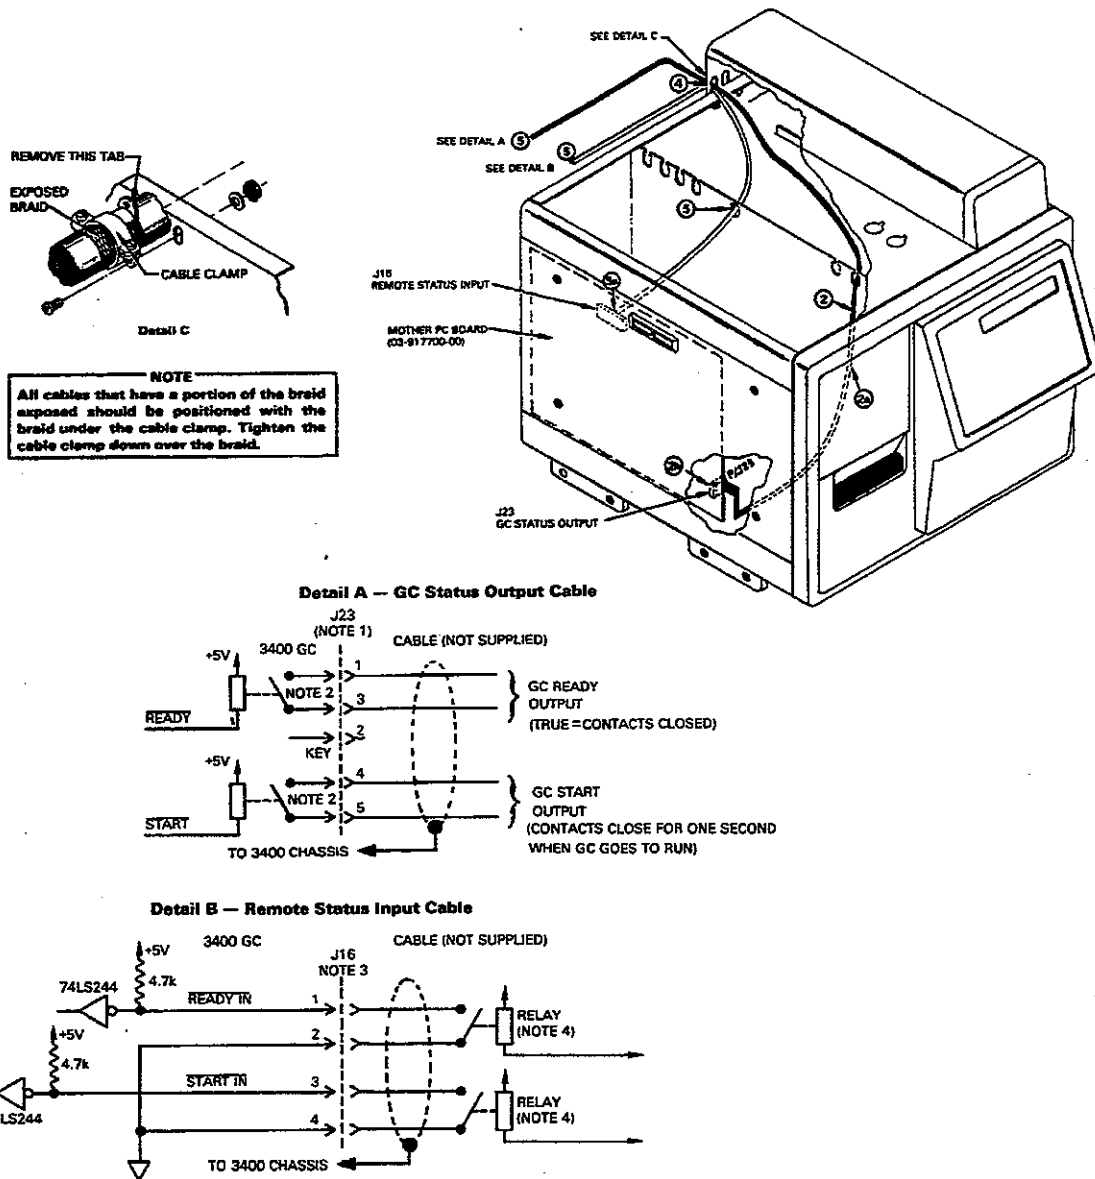

Figure 8 GC Remote Status Input and GC Status Output
- a. Turn off the GC. Remove the GC top covers. Remove detector PC boards to access the GC STATUS OUTPUT (J23) on the Mother PC Board. Refer to Figure 8.
- b. Route the GC Status Output cable (P/N 03-917849-00) into the electronics cabinet through the first guide slot (see Figure 8, Detail A).
- d. Connect the cable to J23 on the Mother PC Board (see Figure 8).
- b. Route the Remote Status Input cable (P/N 03-917850-00) into the electronics cabinet through the third card guide slot (see Figure 8, Detail B).
- c. Connect to J16 on the Mother PC Board (see Figure 8).